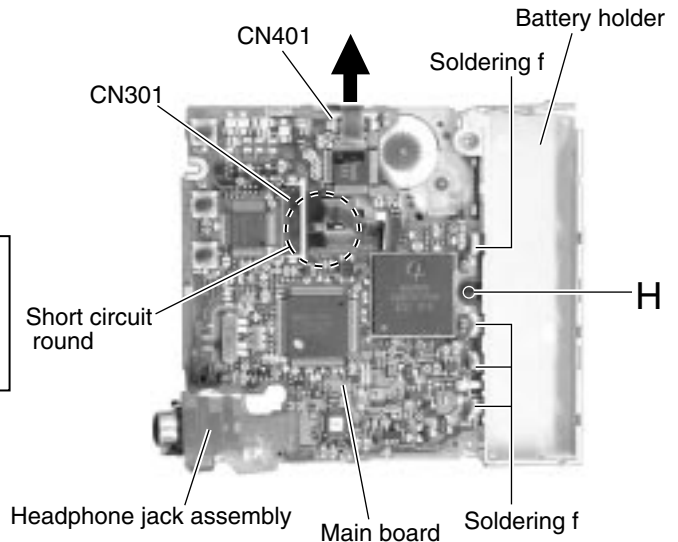

Fig.8
■ Removing the main board and the battery holder (See Fig.8 and 9)